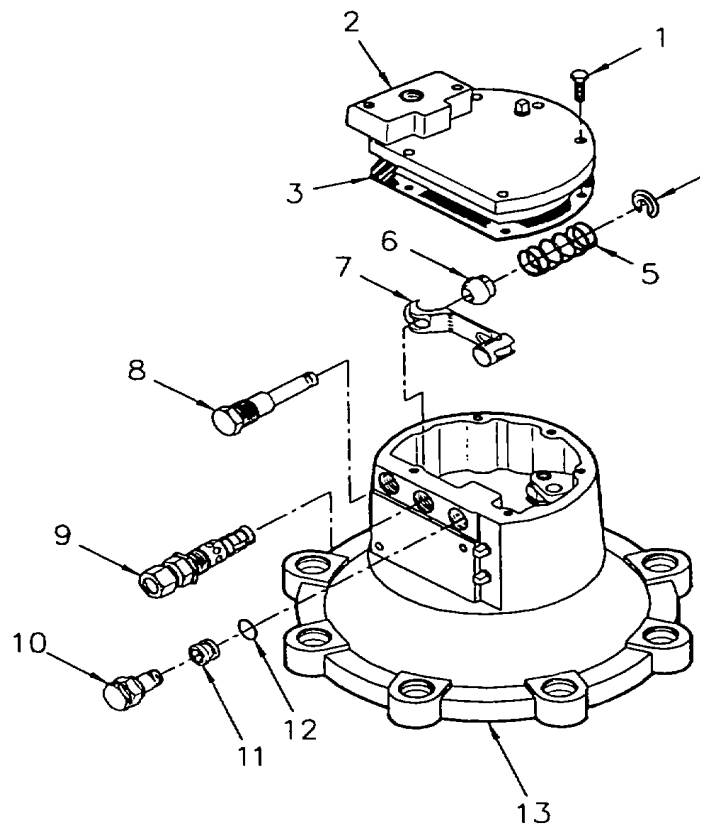
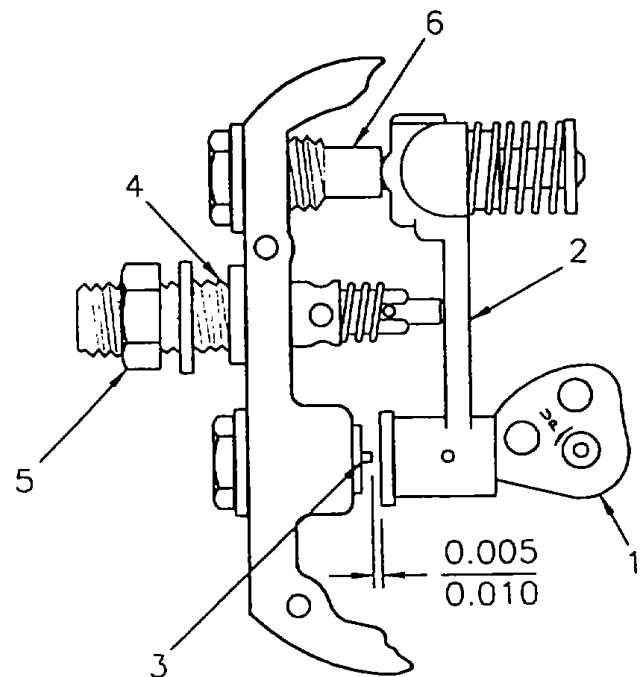

Figure 5-4. Cover Plate, R-Valve and P-Valve
Figure 5-11. R-Valve Timing
(1) Remove cover plate, R-valve, and P-valve.
(a) Remove five hex screws (1, Figure 5-4) and lift cover plate (2) from upper main case assembly (13).
- (b) Place screwdriver through hole in cam (9) and tighten both cam (1) and drive dog (6) by gently turning drive dog (6) clockwise until snug.
- (c) Position arm retainer (8, Figure 5-4) through threaded hole in upper main case (13).
- (d) Place arm (7) on arm retainer (8).
- (e) Place ball pivot (6) on arm retainer (8), ensuring that ball pivot fits into arm cradle.
- (f) Place spring (5) on arm retainer (8).
- (g) Screw arm retainer (8) into threads in housing until head bottoms out.
- (h) Compress spring (5) and place retaining washer (4) onto arm retainer (8), snapping into groove.
- (i) Install preformed packing (12) onto P-valve cap (11) and lubricate. Install P-valve cap (11) onto P-valve (10) with needle and spring installed.
- (j) Screw P-valve (10) into threaded hole in housing until head bottoms out.
- (k) Insert R-valve (9) into hole in housing.
- (l) Back locknut on R-valve (9) away from housing.
- (m) Screw R-valve (9) into threaded hole three turns.
- (n) Set timing of R-valve (9) by:
- 1 Rotate cam (1, Figure 5-11) until arm (2) is 0.005 to 0.010 inches from needle (3). Hold in this position.
- 2 Screw R-valve (4) in until its piston just seats. This is the point at which valve arm (2) will just begin to move away from face of arm retainer (6).
- 3 Tighten locknut (5) to hold R- valve (4) in position.
- 4 Hold this position of cam (1) and check clearance between needle (3) and arm (2).
- 5 Readjust R-valve (4) if necessary to obtain 0.005 to 0.010 inch clearance when R-valve has just been seated.